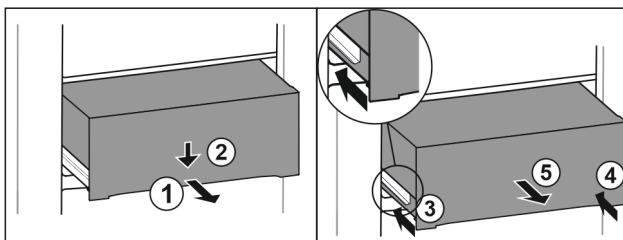

Fig. 152
- Pull out drawer half-way. Fig. 152 (1)
- Push the drawer down at the front. Fig. 152 (2)
- Push the left rail in by about 2 cm. Fig. 152 (3)
- Push the right rail in by about 2 cm. Fig. 152 (4)
- Remove drawer to the front. Fig. 152 (5)